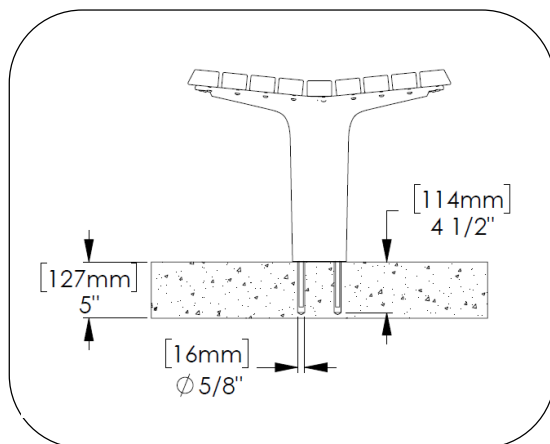

Fig. 1 – anchor hole size
3. Drill holes using hammer drill and 5/8" dia drill bit, see Fig. 1.